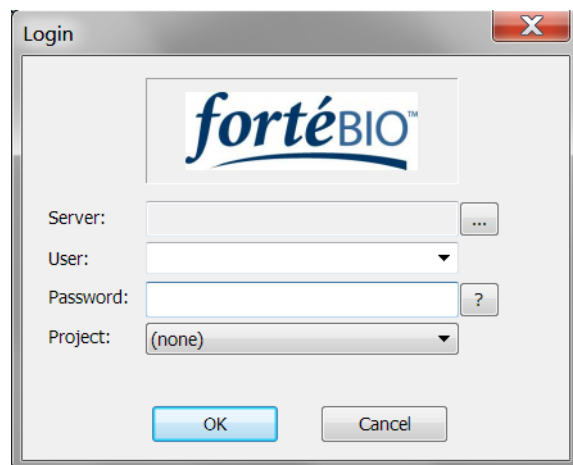

Figure 3-1: Login Dialog Box
1. Launch the Data Analysis software by double-clicking the Data Analysis desktop icon. The **Login** dialog box displays (Figure 3-1).